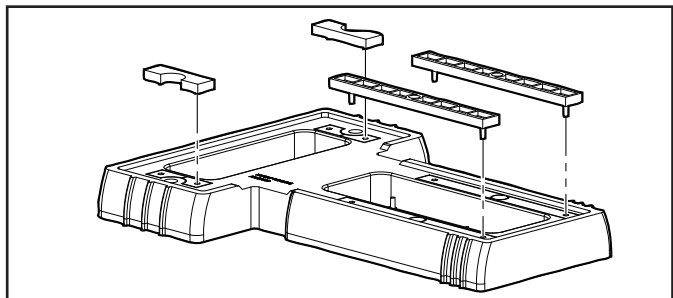

Figure 5. Snap Spacers into Place
- Align the pins in the four (4) spacers with the holes in the base and snap the spacers into place, as shown in Figure 5.